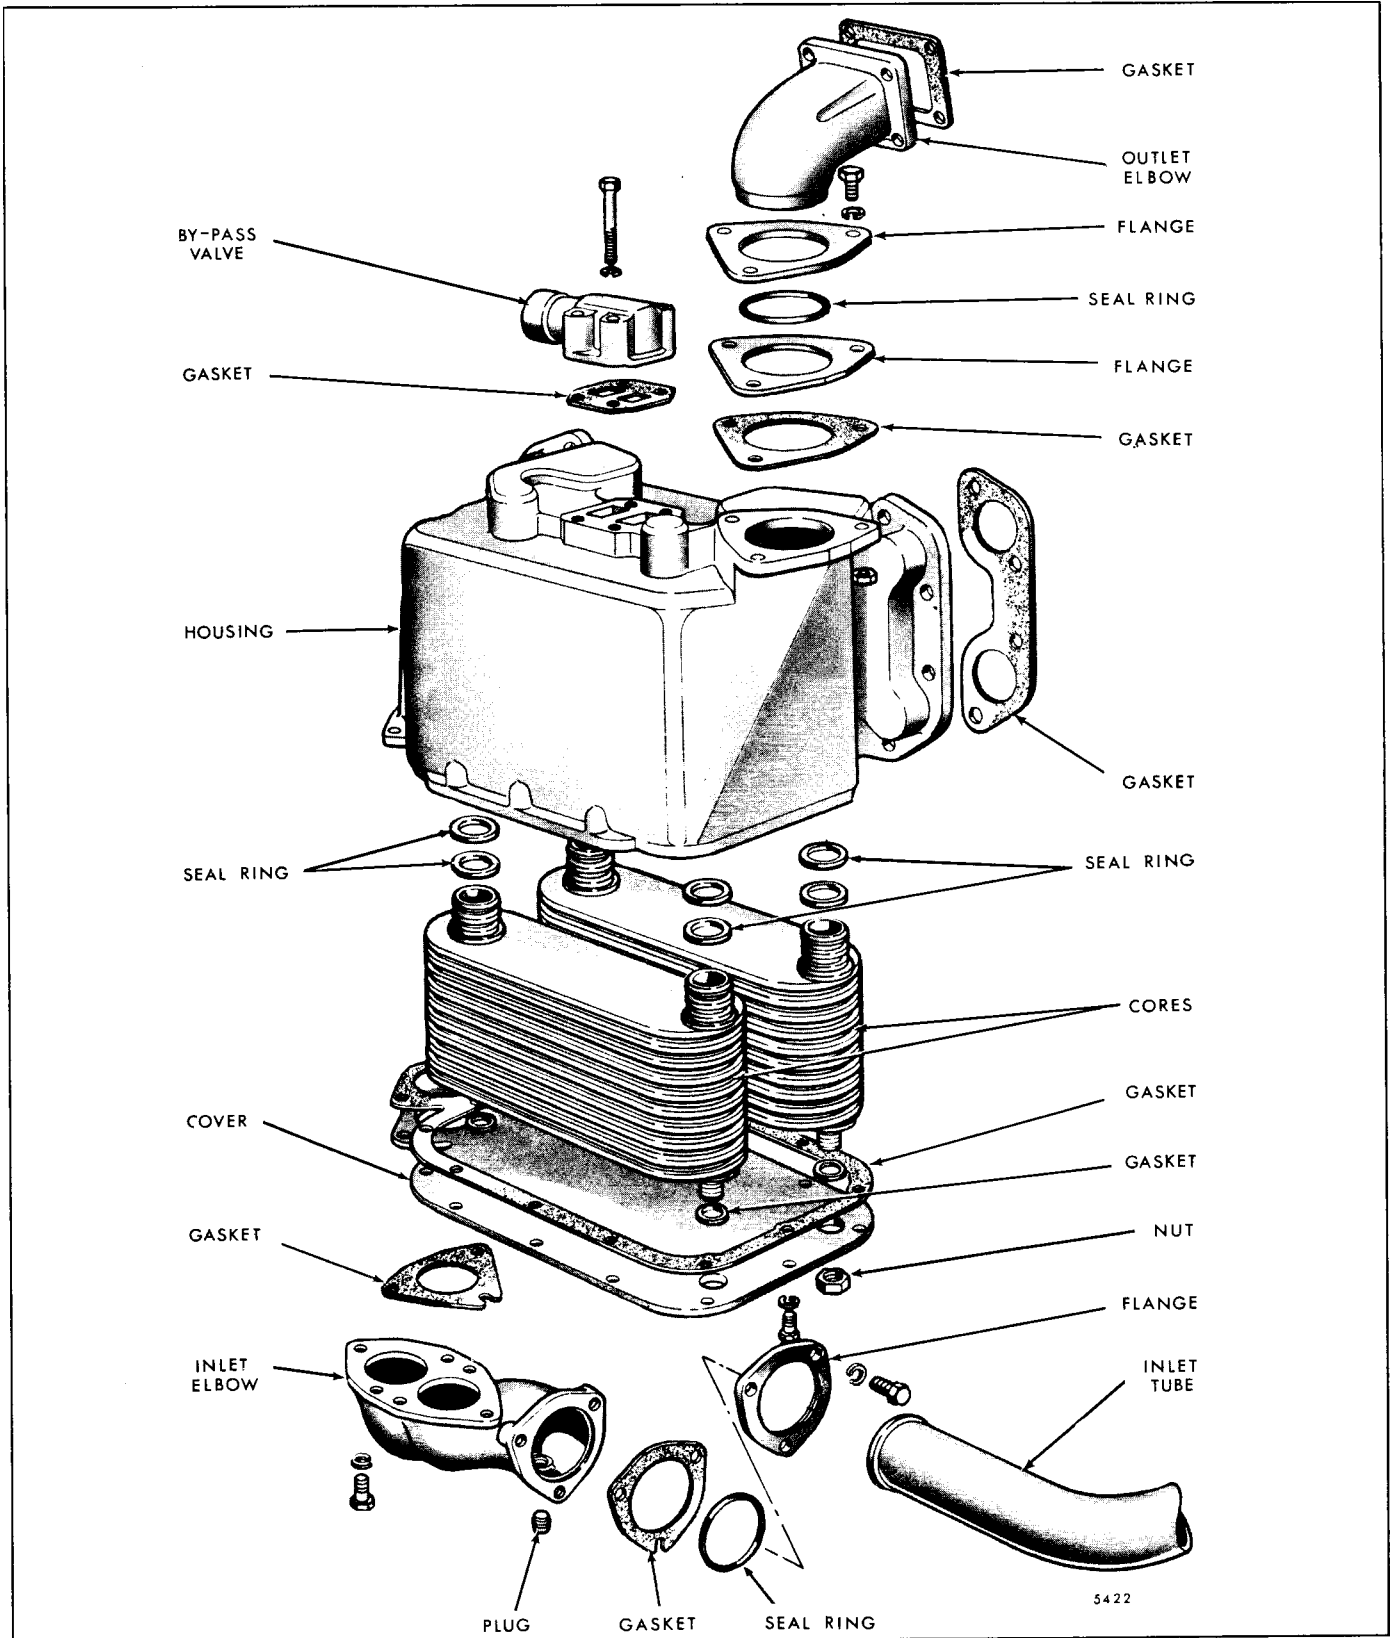

Fig. 3 - Lubricating Oil Cooler and Relative Location of Parts
To ensure continuing engine lubrication should the oil cooler become plugged, a bypass valve is installed in the oil cooler adaptor (Fig. 3).
2. Drain the cooling system by removing the drain plug located at the bottom of the oil cooler. On units where the oil cooler water inlet elbow is located at the bottom of the oil coolers, remove the drain plug from the elbow (Fig. 3).
2. Refer to Fig. 3 and remove the eleven bolts and lock washers securing the cover plate to the oil cooler housing and remove the cover plate and gasket.
1. Refer to Fig. 3 and install the oil cooler bypass valve and a new gasket on the oil cooler using four 5/16"-1 8 bolts and lock washers. Tighten the bolts to 13-17 lb—ft (18-23 N*m) torque.